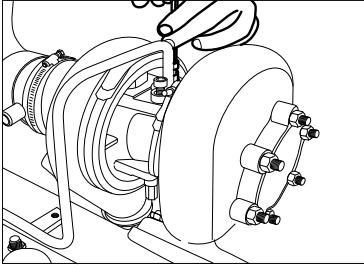

Figure 4.11
2. Manually lubricate the turbocharger bearings and spin the shaft by hand two to three times. (figure 4.11, 4.12 & 4.13)